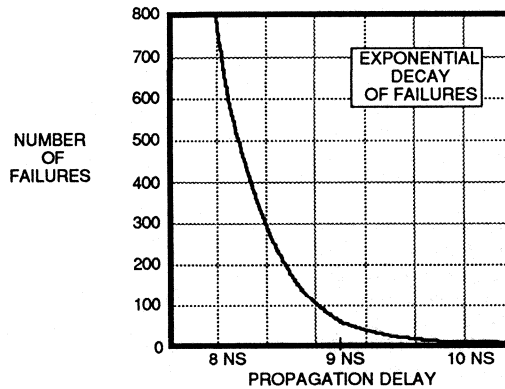
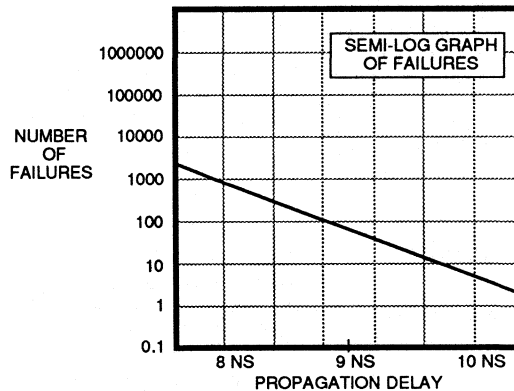
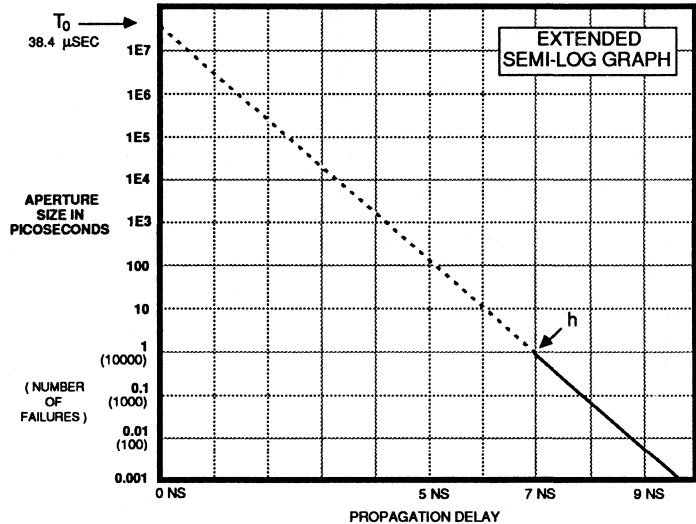

Figure 1
Figure 2
Figure 3
The first measurement we take is to determine the number of times the device is still in a metastable state 8 ns after the clock edge. With this device there are 792 failures after 1 billion clock cycles. Changing the time to 9 ns we measure 65 failures after another 1 billion cycles. Because metastability resolves as an exponentially decaying function the two points define the exponential curve and they can be plotted as shown in Figure 1. An equivalent plot can be made using a semilog scale as in Figure 2. The slope of the line drawn through the two points represents tau. With these two points the tau can be determined by equation (1):
By the same reasoning the window at 8 ns appears to be 0.0792 picoseconds wide. It seems to have grown because there are, of course, more failures after 8 ns than after 9 ns. This aperture has been normalized by researchers to indicate the effective size of the aperture at the clock edge, or time zero. Unfortunately the normalization process tends to obscure the interpretation of T_0 . T_0 can be calculated using equation (3). Figure 3 is an extension of Figure 2 and shows the relationship of T_0 , h, and tau.
Figure 3 is an extension of Figure 2 and gives a graphic indication of T_0 . The number of failures plots on the same scale as the aperture size but the number of failures is dependent on the number of clock cycles used in the test (we always used 1 billion in this paper) and the ratio of data transitions to clock pulses (1:1 in this paper). On the other hand, the aperture size is independent of these things.